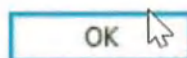

Figure 42
9.5.5.4 If you click the Start button [Figure 41], the message shown below [Figure 42] will appear.